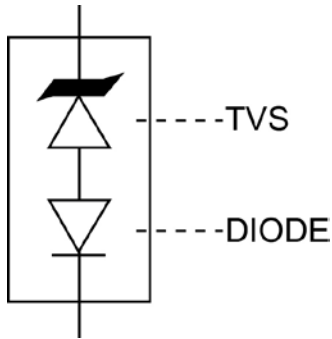
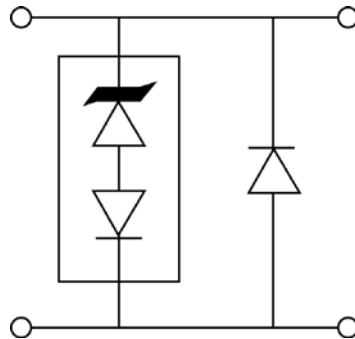

Figure 4
Figure 5
- With impulse repetition rate (duty factor) of 0.01 % max. TVS devices are not typically used for dc power dissipation and are instead operated $\leq V_{WM}$ (rated standoff voltage) except for transients that briefly drive the device into avalanche breakdown (V_(BR) to V_C region) of the TVS element. Also see Figures 5 and 6 for further protection details in rated peak pulse power for unidirectional and bidirectional configurations respectively.
The TVS low capacitance device configuration is shown in Figure 4. As a further option for unidirectional applications, an additional low capacitance rectifier diode may be used in parallel in the same polarity direction as the TVS as shown in Figure 5. In applications where random high voltage transients occur, this will prevent reverse transients from damaging the internal low capacitance rectifier diode and also provide a low voltage conducting direction. The added rectifier diode should be of similar low capacitance and also have a higher reverse voltage rating than the TVS clamping voltage V_C . The Microsemi recommended rectifier part number is the "SMBJLCR60" for the application in Figure 5. If using two (2) low capacitance TVS devices in anti-parallel for bidirectional applications, this added protective feature for both directions (including the reverse of each rectifier diode) is also provided. The unidirectional and bidirectional configurations in Figure 5 and 6 will both result in twice the capacitance of Figure 4.